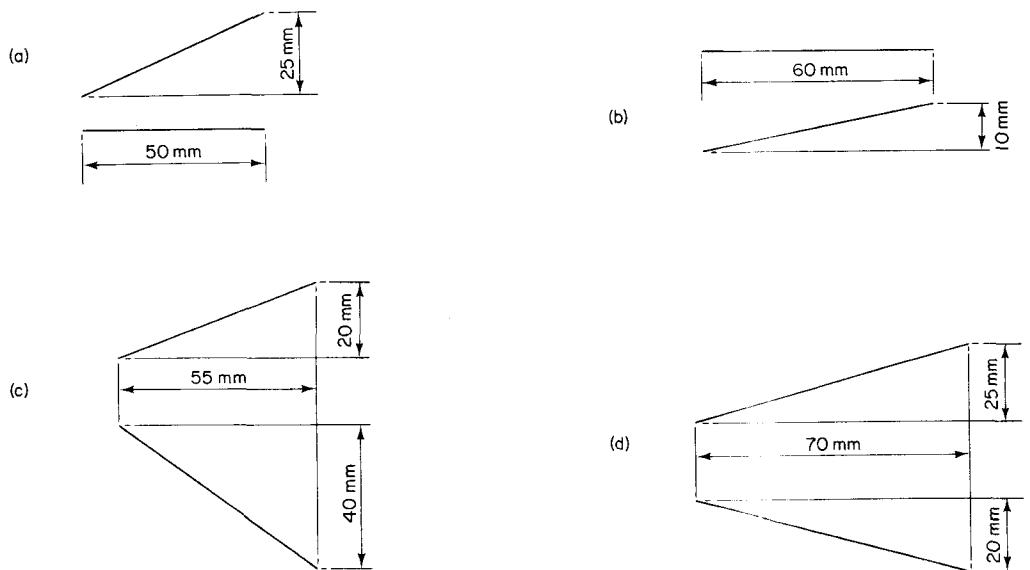

Fig. 3.123
1. Find the true length of the lines shown in Fig. 3.123.